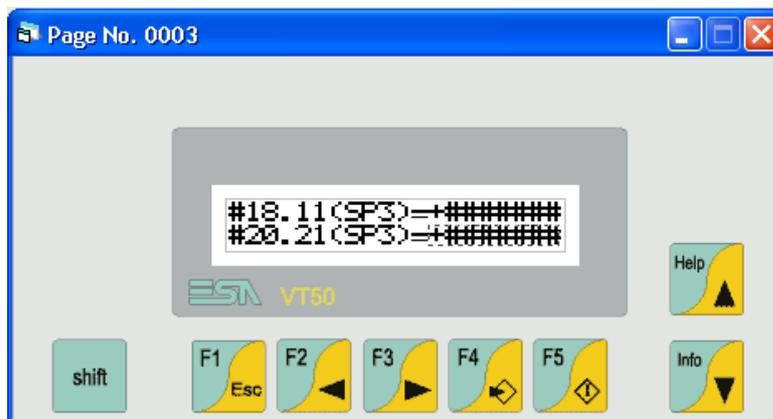

Fig. 30.
3.26 Similarly, proceed as before so as to create Page No. 0003, which will look like the one shown in Fig. 30.